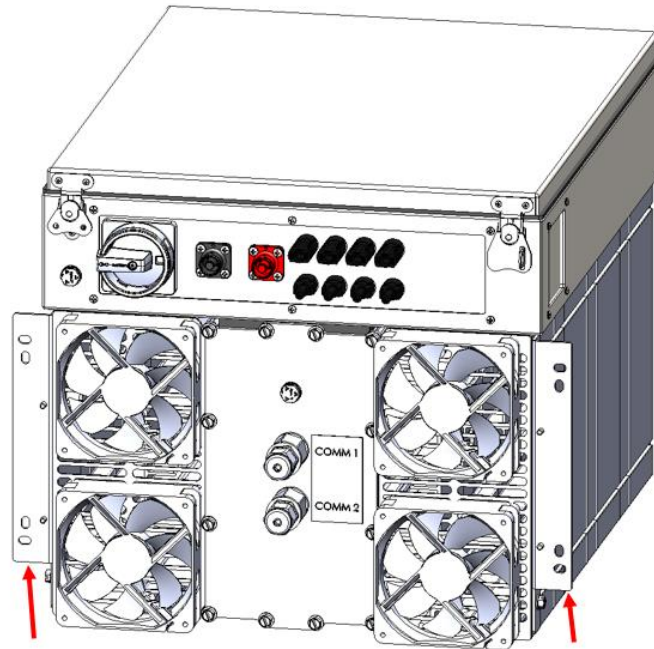
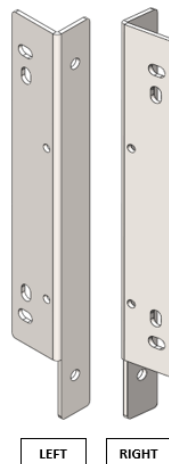

FIGURE 12: SPOT/BOSS WITH FEED AND MOUNTING BRACKETS
FIGURE 13: SPOT/BOSS RACK MOUNTING BRACKETS
- SPOT/BOSS with FEED units (here-on called 'SPOT/BOSS' units) shown in Figure 12 can be unpackaged and lifted onto a table or work bench to attach mounting brackets (Figure 13)
- Using (4) of the provided  $\frac{1}{4}$ "-20 x  $\frac{3}{4}$  Self Tapping-Type F Screws [P-005533], securely attach the left and right mounting brackets to the SPOT unit's side, so that 'wings' are flush to the front face